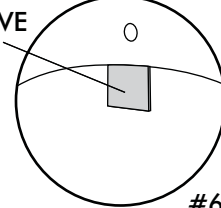

FIGURE 6a
- ☐ REMOVE TAB FROM KICK PANEL AS SHOWN IN FIGURE 6a.